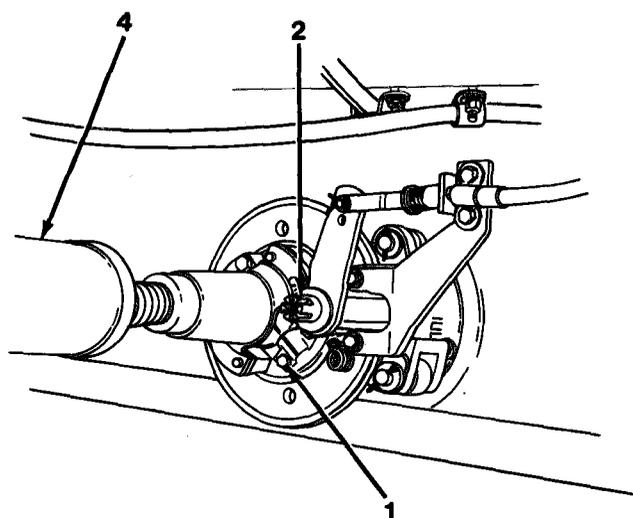
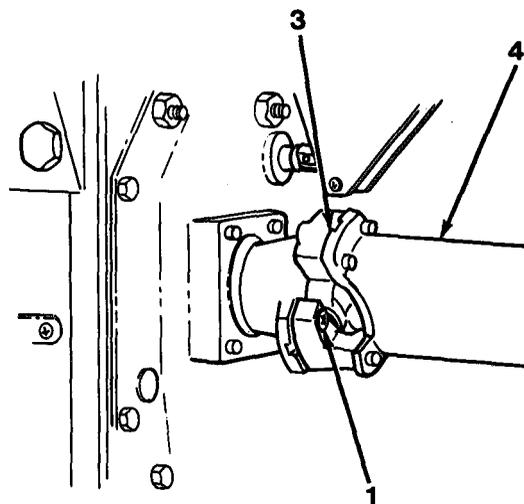

Figure 12-1
Figure 12-2
2. Remove four capscrews (1) from front spider bearing assembly (2).
3. Support rear end of drive shaft assembly (4).
4. Remove four capscrews (1) from rear spider bearing assembly (3, Figure 12-2).
5. Lower drive shaft assembly (4) and remove from under vehicle.
1. Position drive shaft assembly (4, Figure 12-2).
2. Install four capscrews (1) in rear spider bearing assembly (3).
3. Position front end of drive shaft assembly (4).
4. Install four capscrews (1) in front spider bearing assembly (2, Figure 12-1).
5. Torque eight capscrews (1) to 50 lb-ft (68 N•m).